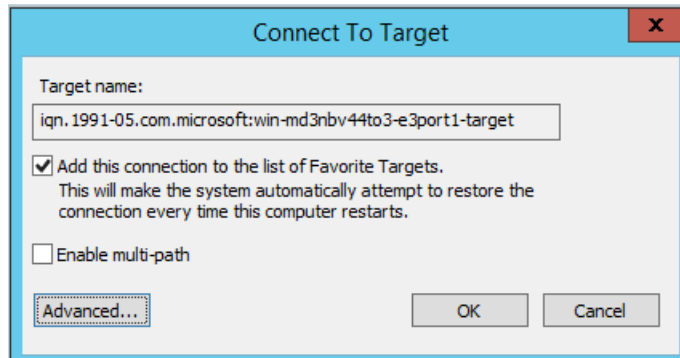

Figure 9-23. Connect To Target Dialog Box
9. On the Connect To Target dialog box (Figure 9-23), click **Advanced**.